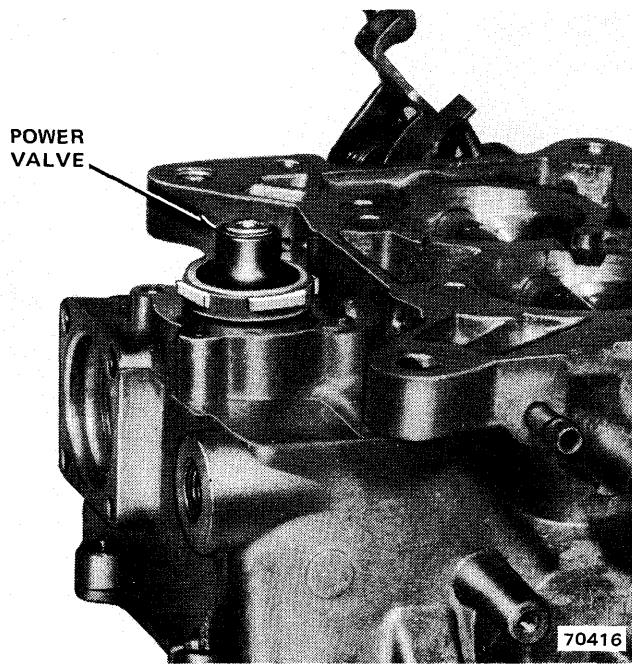

Fig. 4-77 Removing Power Valve
(19) Invert main body and remove power valve cover, gasket and screws. Remove power valve with 1-inch socket (fig. 4-77). Remove and discard power valve gasket.
(20) Remove limiter caps from idle mixture adjusting screws using soldering gun to cut through limiter caps. Remove idle mixture adjusting screws and springs.
(21) Remove dashpot or electric solenoid, if equipped.